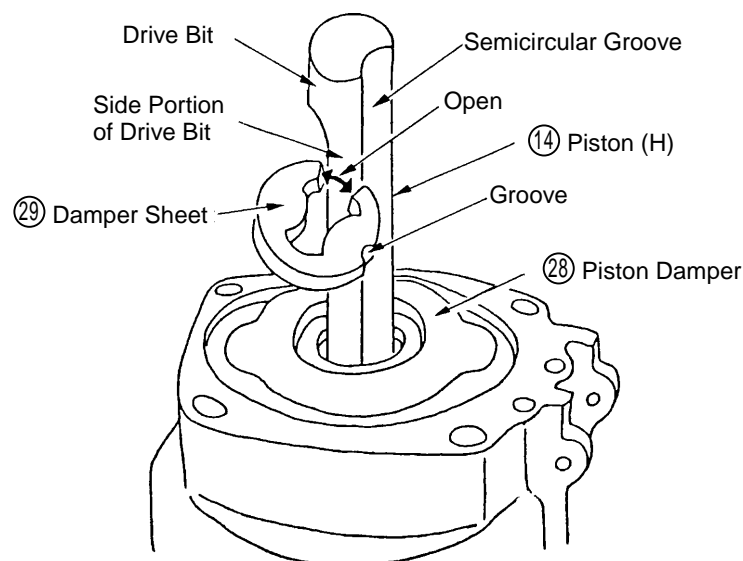

Fig. 11
- When reassembling Piston (H) (14), ensure that the semi-circular groove side is facing toward the Magazine side. (See Fig. 11)
- When reassembling the Damper Sheet (29) onto Piston (H) (14), pry open the slit portion of the Damper Sheet and press it on from the Drive Bit side, ensuring without fail that the groove on the outer circumference of the Damper Sheet is on the semicircular groove side of Piston (H) as illustrated in Fig. 11.